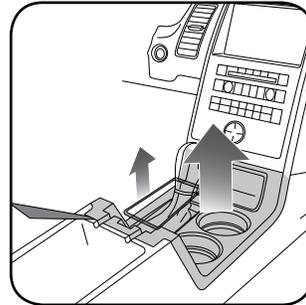

Fig. 1.1
1. Unclip and remove the trim around the shifter. Unclip and remove the top of the center console and cupholders. (Fig. 1.1)